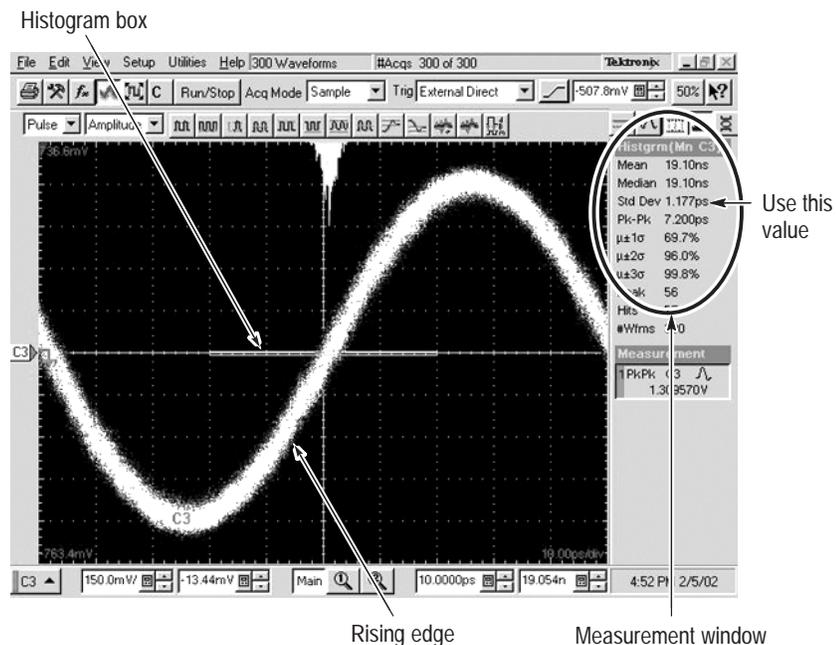

Figure 19: RMS Jitter measurement
3. Press the Clear Data button and then the Run/Stop button on the oscilloscope to display a waveform as shown in Figure 19 on page 53.
Set up the Measurements. Refer to Figure 19 as you align the waveform.